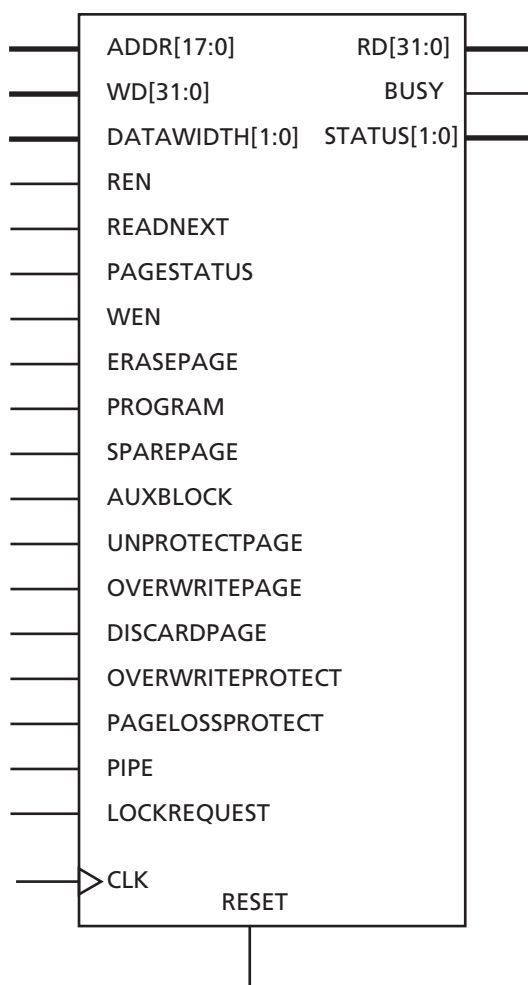

Figure 2-31 • Flash Memory Block
Fusion is the first FPGA that offers a flash memory block (FB). Each FB block stores 2 Mbits of data. The flash memory block macro is illustrated in Figure 2-31. The port pin name and descriptions are detailed on Table 2-19 on page 2-42. All flash memory block signals are active high, except for CLK and active low RESET. All flash memory operations are synchronous to the rising edge of CLK.